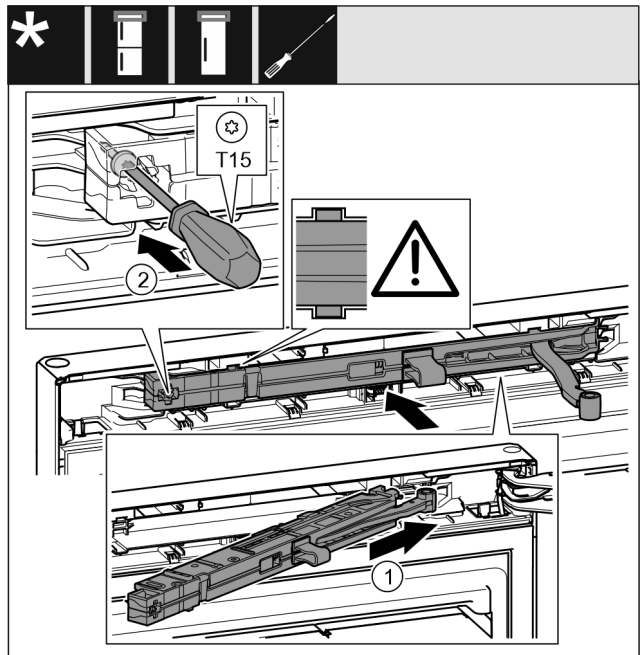

Fig. 42
- ▶ On the swap bearing block side, slide the closing damper unit Fig. 42 (1) into the recess at an angle up to the stop.
- ▶ Use a screwdriver to tighten the screw Fig. 42 (2).